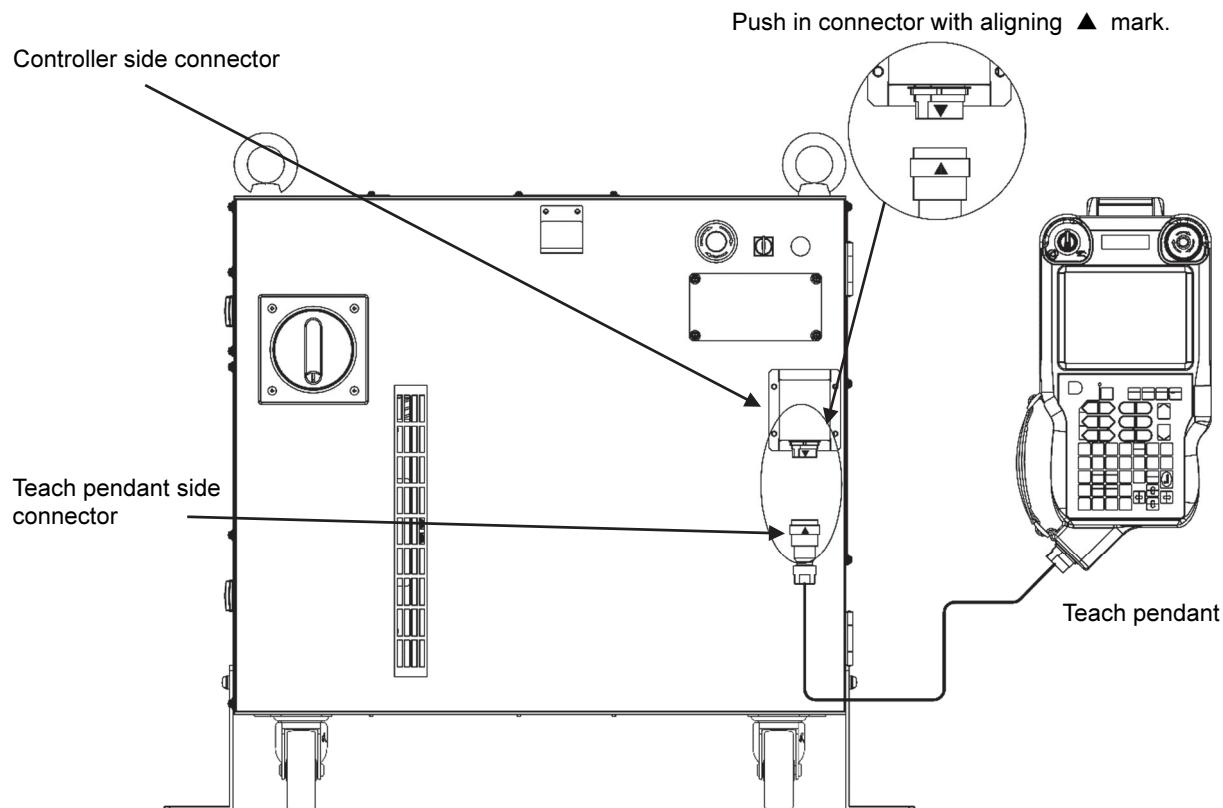

Fig. 3.4.1 Connection of Teach pendant
- 2** As shown in Fig. 3.4.1, connect the connector on the teach pendant side to the connector on the controller body side. Push it in until it is locked.